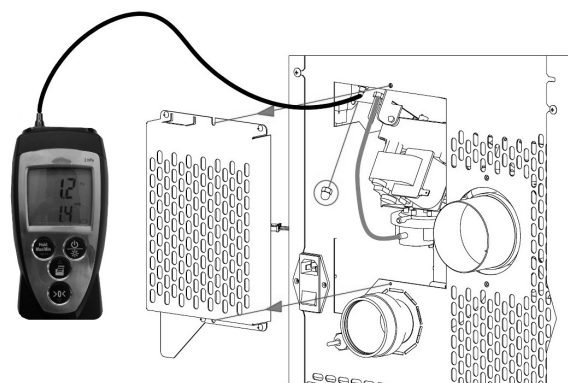

Fig. 76 - Digital pressure switch connection
- Connect a digital pressure switch with a tube to detect the depression (see **Fig. 76**).